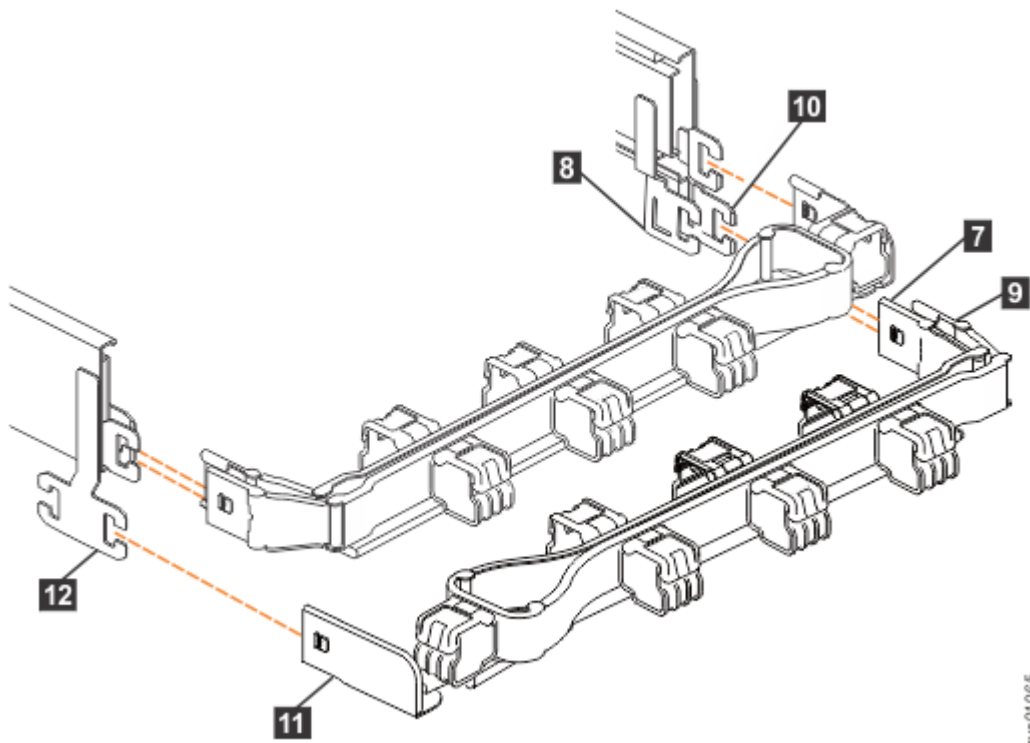

*Figure 56. Attach the support rail connector of the upper CMA to the right support rail*
4. Attach the support rail connector on the upper CMA assembly (5) to the connector base on the right support rail (6), as shown in Figure 56 on page 67.